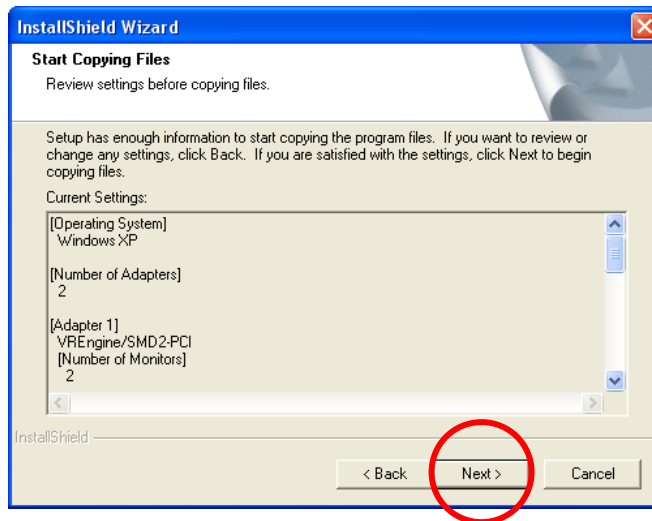

Fig. 15 Start Copying Files dialog
- The installer tries to match each connected monitor with its list of known monitor types. If it succeeds, it skips directly to the Start Copying Files dialog in *Fig. 15*. If it cannot match one or more monitors, the Monitor selection dialog will appear. Select the type of Monitor 1 from the list.